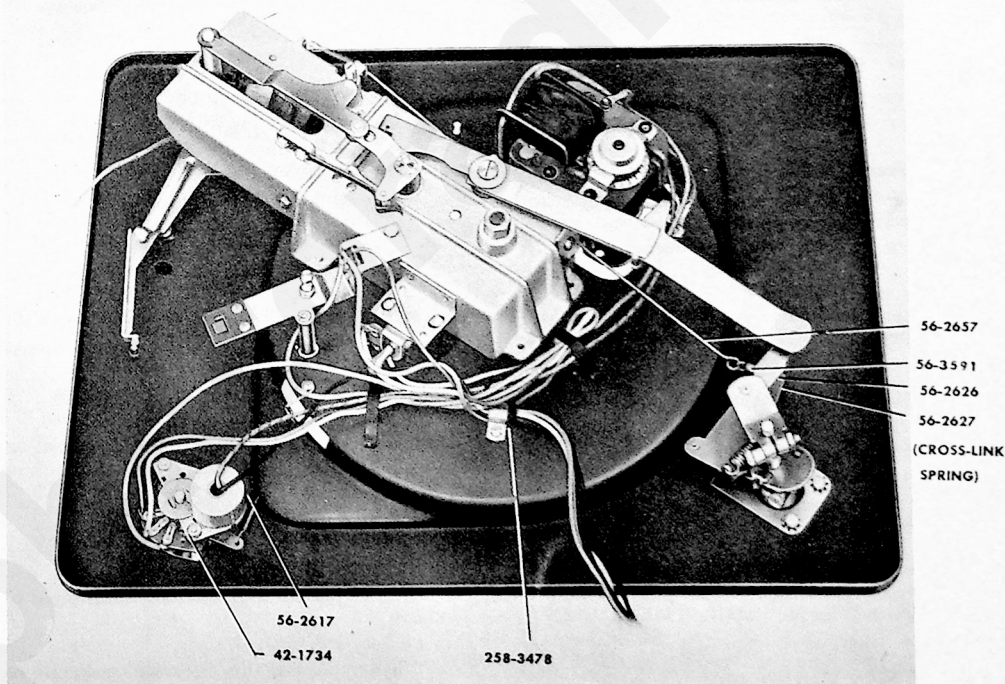
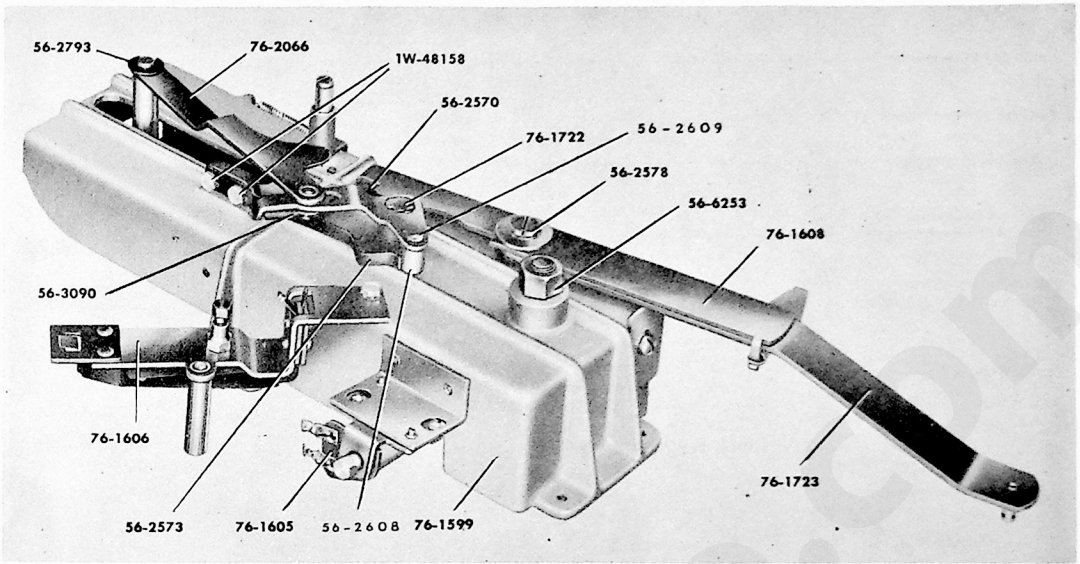

Figure 24—CHANGER, UNDERSIDE VIEW.
Figure 26—CHANGER MECHANISM ASSEMBLY, UNDERSIDE VIEW.
- d. Unhook pull-cord spring 56-2617, figure 24.
- a. Remove cross-link spring 56-2627 and cross-link 56-2626, figure 24.
- b. Unhook one end of pull-rod spring 56-3591, figure 24.
- c. Remove hex-head screw holding trip-contact assembly to changer-mechanism housing, figure 26.
- a. Remove "C" washers 56-2793 from main-cam and main gear-shaft assemblies, figure 26.
- a. Remove cross-link spring 56-2627, and cross-link 56-2626, figure 24, from eccentric-shaft lever.
- b. Remove spring 56-2570 from mechanism frame, figure 26.
- a. Remove two screws, 1W-48158, figure 26, from mechanism frame and lift off spring.
- a. Remove cross-link spring 56-2627, figure 24.
- c. Remove spring 56-3591 and pull-rod 56-2657, figure 24.
- b. Remove "C" washer 56-2793 which holds push-link 76-2066 to main-cam stud. See figure 26.
- c. Remove pull-rod 56-2657, figure 24, and spring 56-2570, figure 26.
- d. Lift out main-gear-shaft assembly, figure 26.
- b. Loosen nut 56-6253, figure 26, a few turns and tap with a wooden mallet. Continue this process until shaft is free.